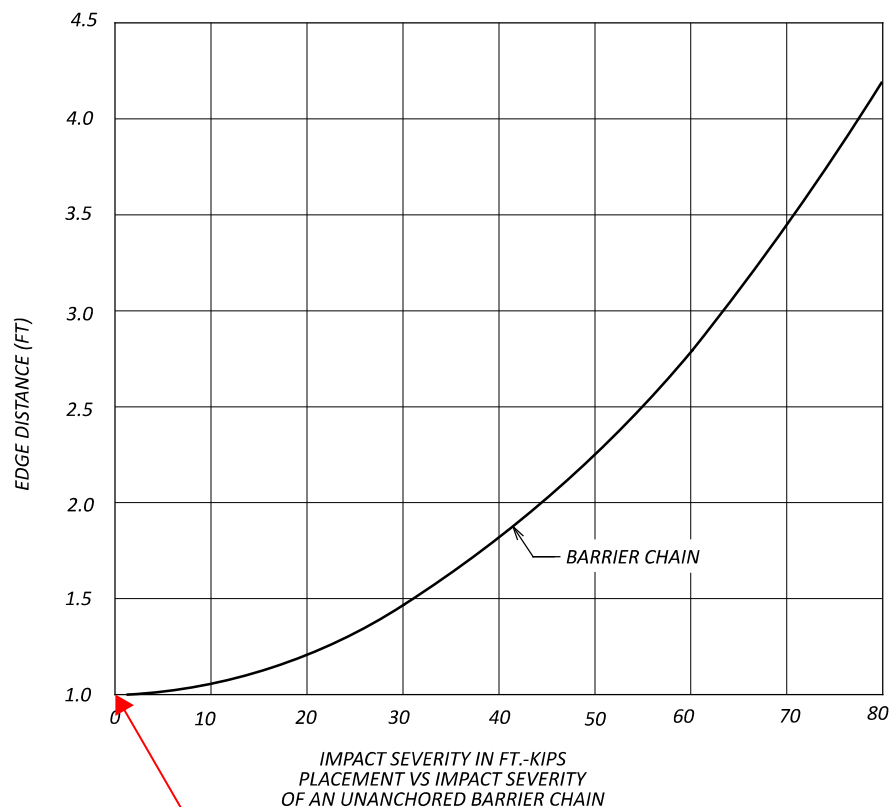

FIGURE 2
STEP 3: (A) IF THE PORTABLE CONCRETE BARRIER IS LOCATED ON A ROADWAY NOT OVER A TRAFFIC FACILITY, DETERMINE THE MINIMUM EDGE DISTANCE FOR UNANCHORED PCB-91 OR RM-4.2 BARRIER USING FIGURE 2. EDGE DISTANCE IN FIGURE 2 ON OR ABOVE THE BARRIER CHAIN CURVE MAY REMAIN UNANCHORED.